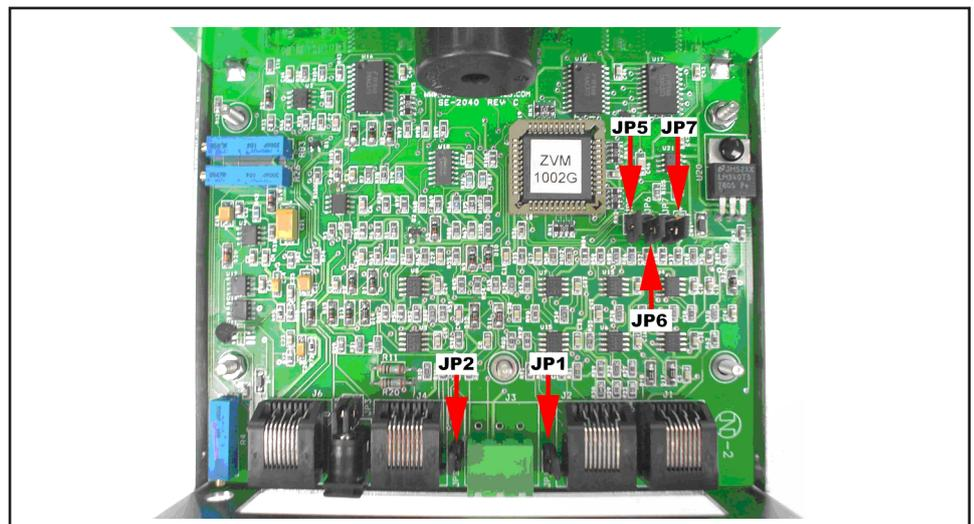

Figure 5. Jumpers JP1, JP2, JP5, JP6, JP7
When the operator is connected to the remote and accumulates a voltage greater than ± 1.25 volts, the CHARGE LED (red) will display in its respective OPERATOR section (for charge detection data out, see the Data Output section on Page 3). To disable charge detection on the display, shunt jumper JP6 inside the unit (See Figure 5). If a charge is detected while using this configuration, the display will remain in its previous state until the charge is no longer detected.
The alarm volume may be adjusted with the potentiometer located at the rear of the unit. Adjust the potentiometer counterclockwise to decrease the volume. The volume control may be disabled or enabled by the jumper JP5 inside the monitor (See Figure 5 for more details).
- II. Remove jumper JP5 (See Figure 5) to enable the Audible Adjust Potentiometer located at the rear of unit, or add the jumper to disable it (maximum volume).
- II. Remove jumper JP6 (See Figure 5) to enable the Charge LED located on the front of the unit, or add the jumper to disable the Charge LED.
- II. Remove jumper JP7 (See Figure 5) to disable the Charge Data Output for data collection, or add the jumper to enable the Data Output.